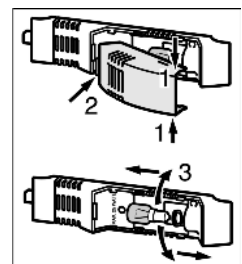

Fig. 12
- Take hold of the lamp cover at the top and bottom *Fig. 12 (1)*.
- Disengage the lamp cover at the back and detach it *Fig. 12 (2)*.
- Replace the lamp *Fig. 12 (3)*.